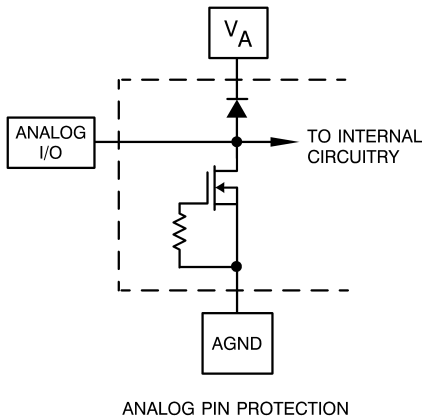
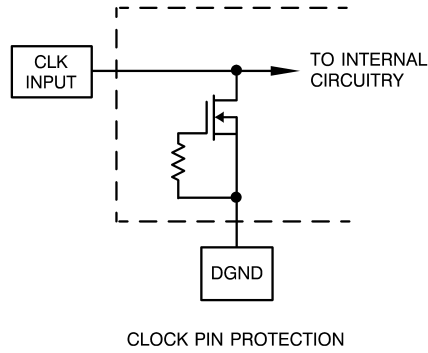
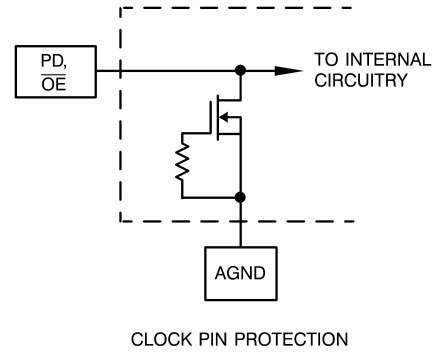

Figure 1.
Figure 2.
Figure 3.
- The inputs are protected as shown below. Input voltage magnitudes up to 500mV beyond the supply rails will not damage this device. However, errors in the A/D conversion can occur if the input goes above V_A or below AGND by more than 300 mV. See Figure 1, Figure 2 and Figure 3.
- (1) The inputs are protected as shown below. Input voltage magnitudes up to 500mV beyond the supply rails will not damage this device. However, errors in the A/D conversion can occur if the input goes above V_A or below AGND by more than 300 mV. See Figure 1, Figure 2 and Figure 3.
- (2) Typical figures are at $T_A = T_J = 25^\circ C$, and represent most likely parametric norms.
- (3) Tested limits are specified to TI's AOQL (Average Outgoing Quality Level).